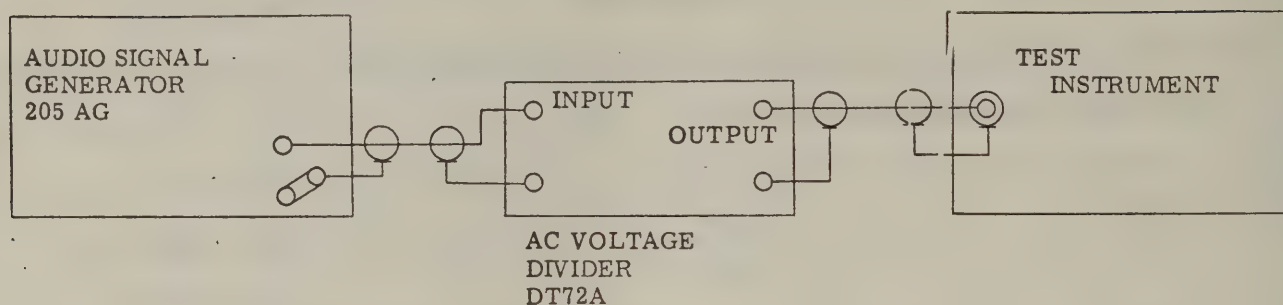

Figure 2
4.3.1 Disconnect the equipment and reconnect as shown in Figure 2.